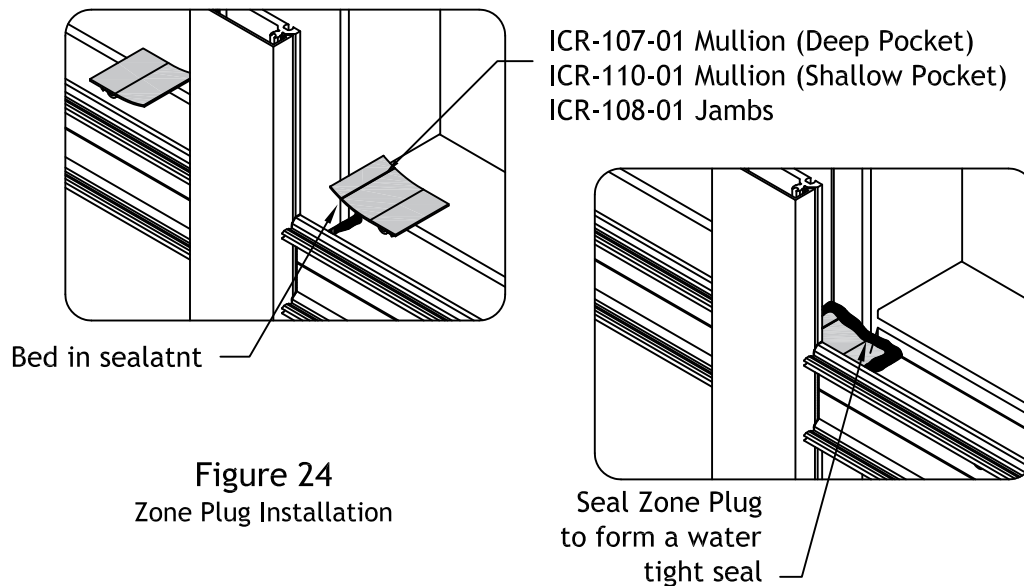

Figure 24
- 6.3 Install and seal zone plugs at captured verticals as shown in **FIGURE 24**. Where there are SSG verticals, install and seal aluminum bridges per instructions in **STEP 6.5**.